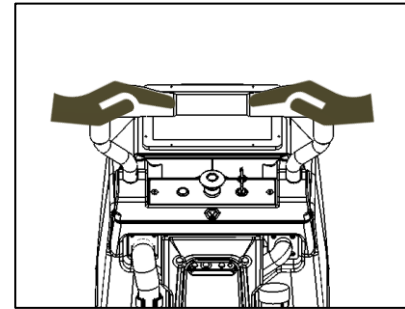

Fig. 2
- Use both hands to push from the handle as shown (Fig. 2).